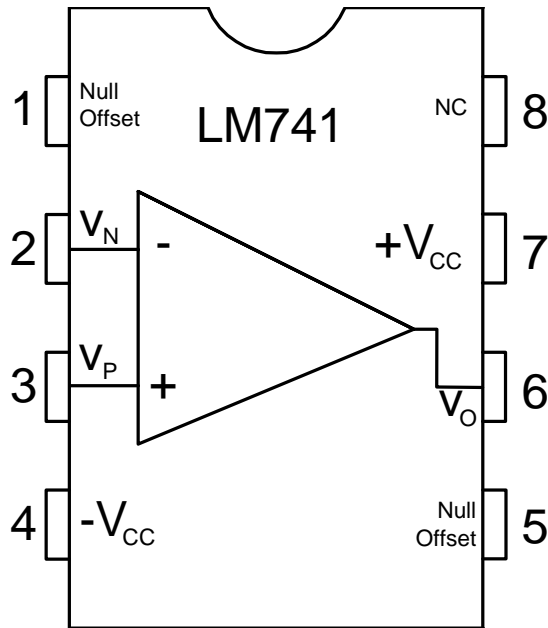

Figure 3
- a. Study the chip layout of Fig. 3. The standard procedure on DIP (dual in-line package) "chips" is to identify pin 1 with a notch in the end of the chip package. The notch always separates pin 1 from the last pin on the chip. In the case of the 741, the notch is between pins 1 and 8.